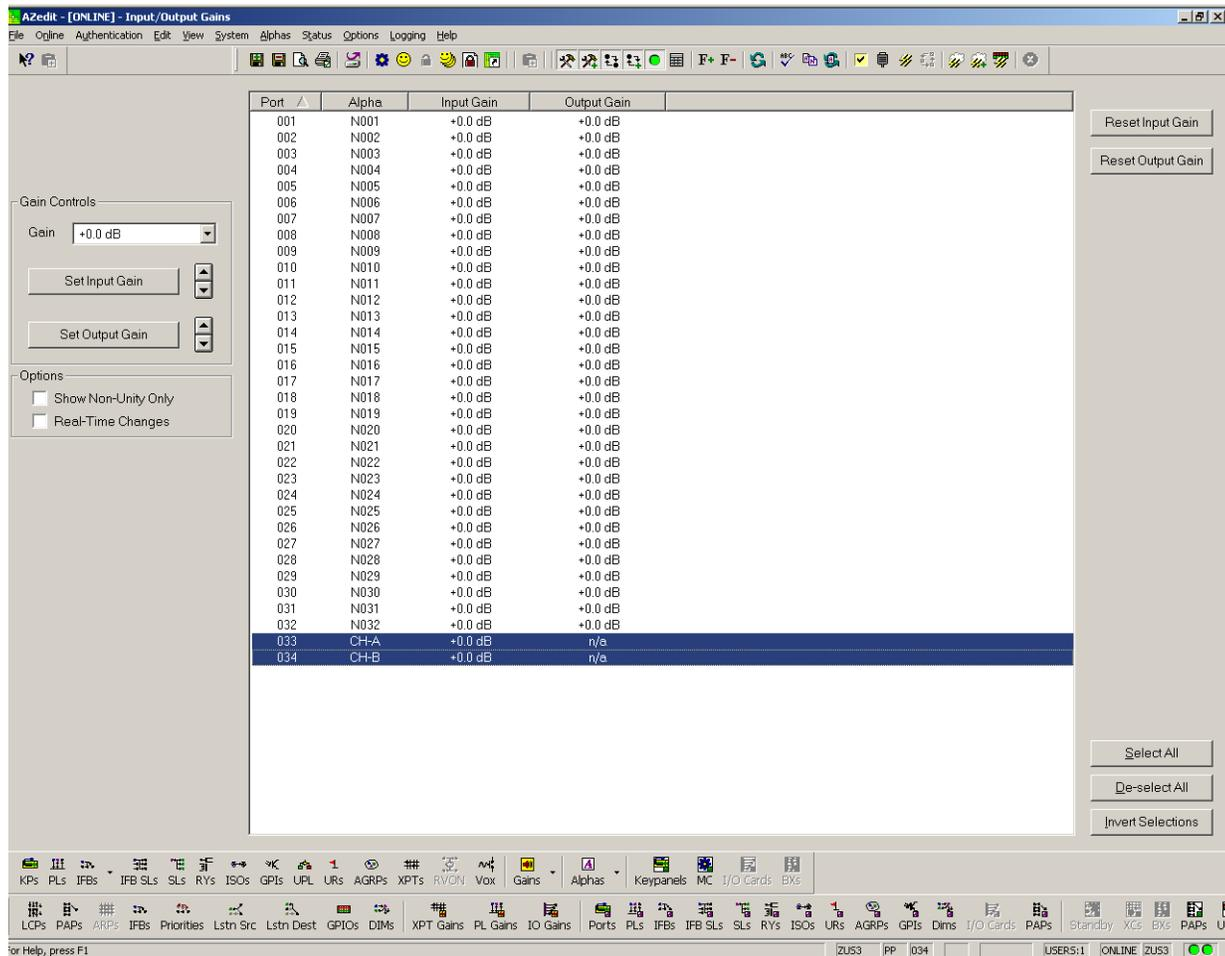

FIGURE 39. Input/Output Gain Window
**NOTE:** Notice in Figure 39, the Output Gain column for CHA and CHB has n/a (not available) in the output gain column.